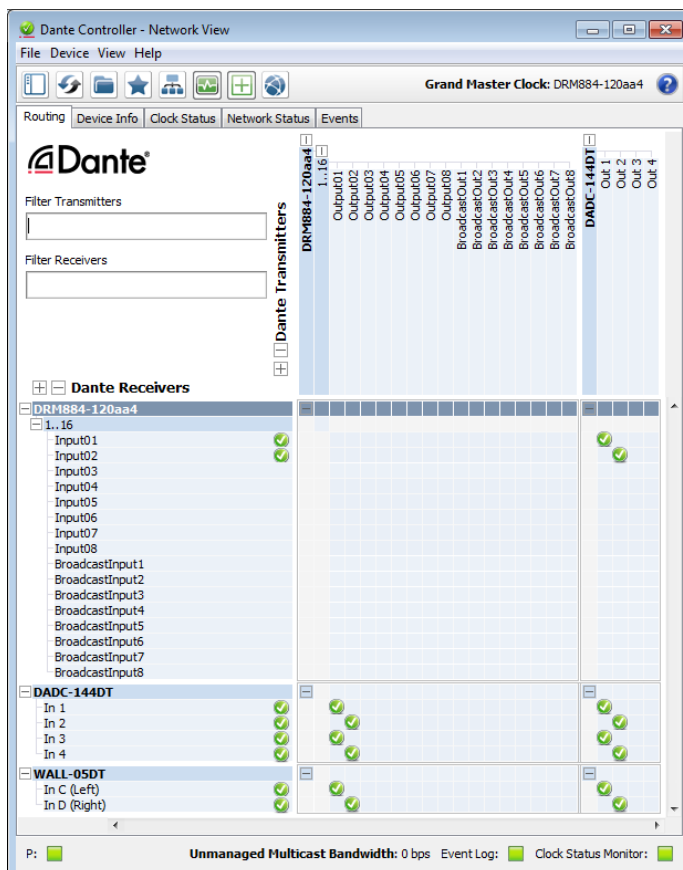

Fig. 10 Dante routing
- 1) Under “Routing” in the window “Network View”, click  to open the transmitting channels of the desired device under “Dante Transmitters” and the receiving channels of the connection partner desired under “Dante Receivers” (refer to fig. 10).